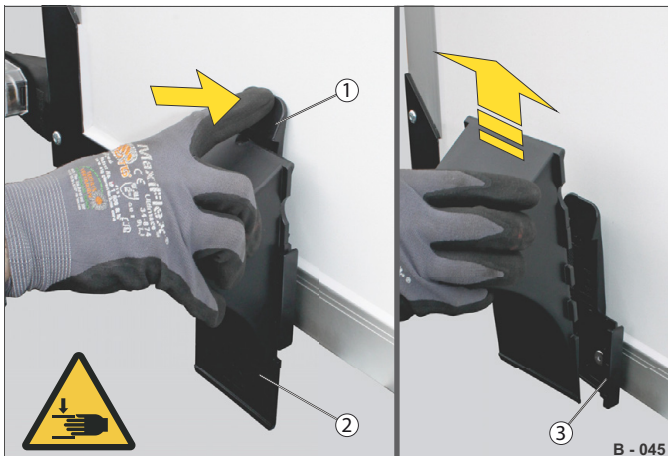
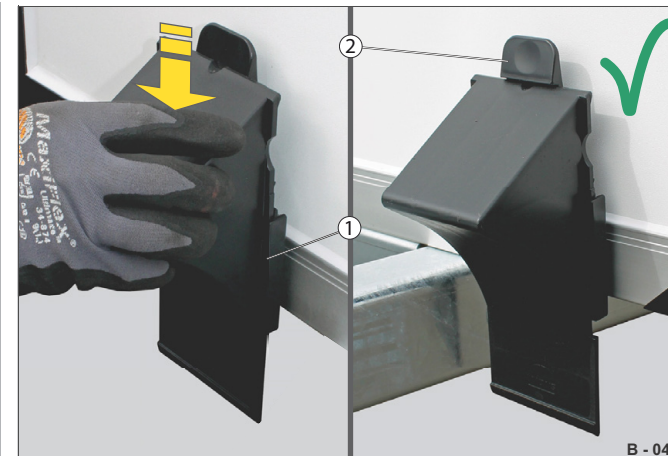

Fig. 80 Removing the wheel chock
Fig. 82 Secure the wheel chock (driving position)
- Press the lever (Fig. 80 /1) of the holder (Fig. 80 /3).
- Slide out the wheel chock (Fig. 80 /2) at the same time.
- Position the wheel chock in the holder (Fig. 80 /3) - Notches must be aligned to match up with lugs (Fig. 82 /1).
- Slide the wheel chock into the holder until it engages - a clicking noise can be heard. The lever (Fig. 82 /2) secures the wheel chock against falling out. The wheel chocks have been secured in the holders.